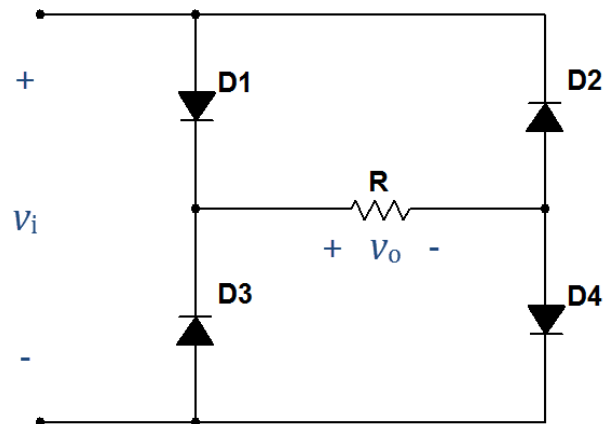

Figure 1.8: Circuit for Problem 1.8
Figure 1.8 shows a diode full-wave rectifier connected to a load resistance.
1. Copy the circuit of Figure 1.8 and sketch the flow of positive current throughout the entire circuit for $v_i > 0$. Repeat for $v_i < 0$.
Enter the circuit of Figure 1.8 on the preceding page using the 1N4148 diode model. Use the Simulate → Instruments → Function Generator and Simulate → Instruments → Oscilloscope instruments. Use a Simulate → Instruments → Measurement Probe configured to display RMS voltage to measure the effective DC value of the output $v_o(t)$.
Construct the circuit of Figure 1.8 on page 39 using a 1N4148 diode. Use the ELVISmx Function Generator to create $v_i(t)$ and the ELVISmx Oscilloscope to display both $v_i(t)$ and $v_o(t)$.